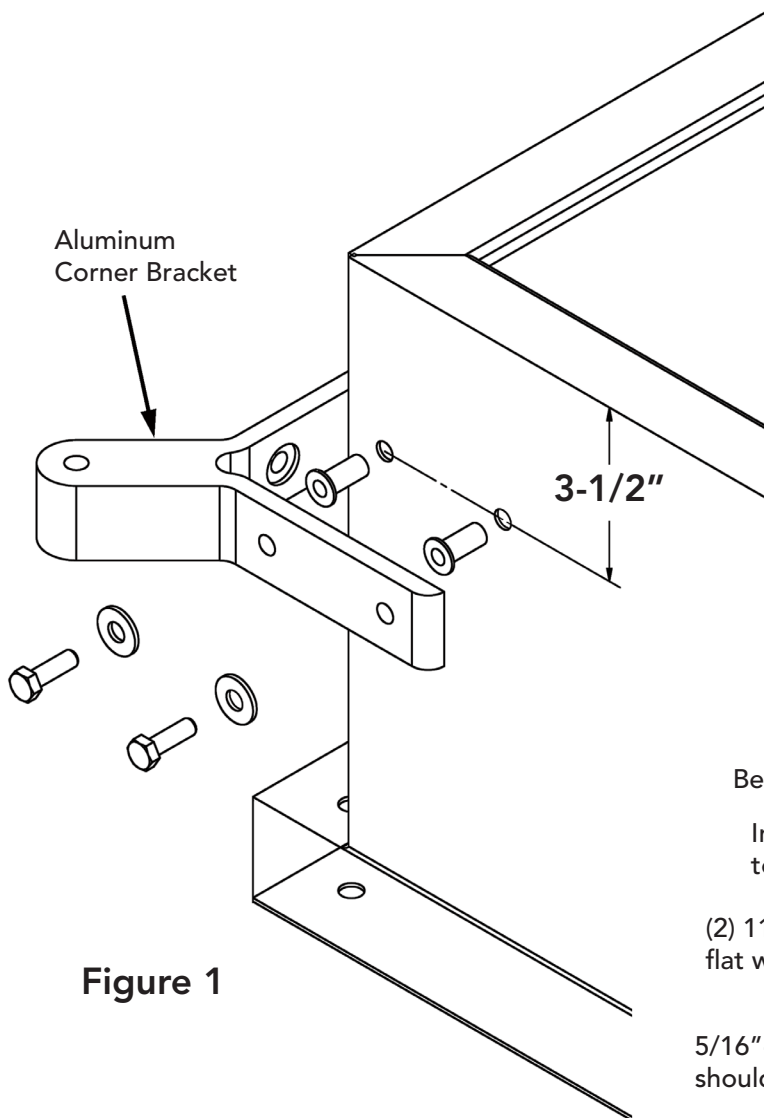

Figure 1
1. Measure down 3-1/2" from the top of the roof hatch curb and mark a horizontal line on each side of one corner as shown in Figure 1.